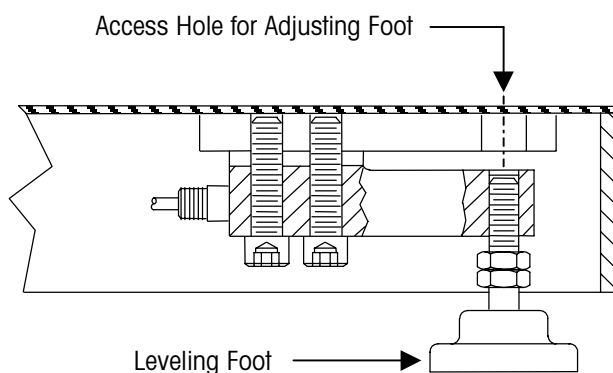

Figure 2-1: Leveling Foot
- Use a screwdriver to adjust the leveling feet as needed. Adjustments can be made from the top of the scale platform at the access holes located in the corners of the platform (see Figure 2-1).